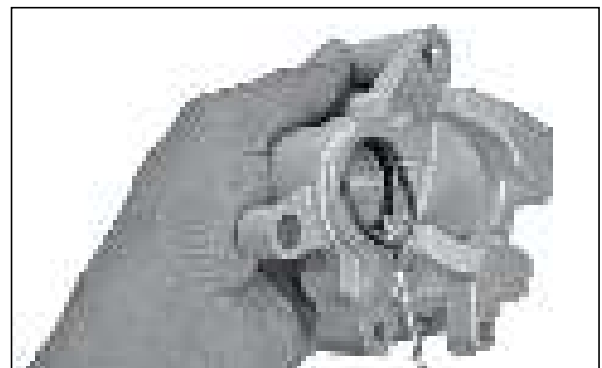

Fig. 6.126
- Remove the dust seals with a bent plastic / brass tool to avoid scratches on the caliper bore. (Fig. 6.126)